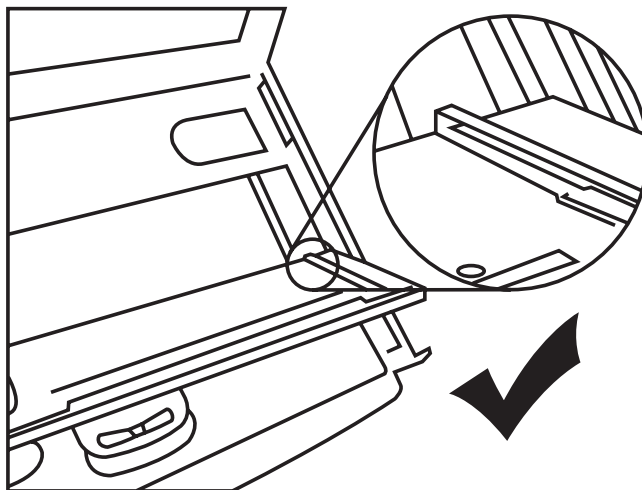

Figure 4-13. Correct way to replace the keyboard, diagram #1.
4. Plug in the keyboard connector firmly. See Figures 4-13 through 4-17.